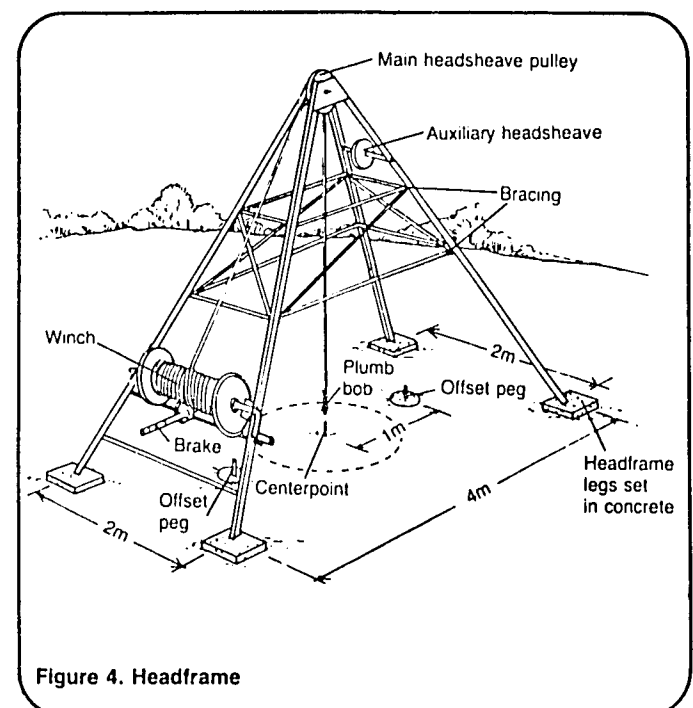

Figure 4. Headframe
3. Erect the headframe over the site of the well. The headframe must be sturdy enough to support the caisson rings, which may weigh over 350kg. One type of headframe that has been used successfully is shown in Figure 4. It is made of angle iron and equipped with a winch and brake. The four feet of the headframe must rest on solid ground--place stone slabs or pour concrete under them if necessary. It is important that the headframe not be moved once it is in position and the center point of the well has been fixed.
5. Establish the center point of the well by lowering a plumb bob from the headsheave pulley on the side opposite the winch; that is, the side from which the main hoisting rope will descend. Mark this point on the ground with a short length of re-rod. Set offset pegs on opposite sides and exactly 1.0m from the center point. Make the top of these pegs at least 150mm above ground level to make allowance for the temporary lining that will be installed. These pegs should be set in concrete and positioned so that the top plumbing rod will fit over them as in Figure 4. Allow the concrete to set for several days before using the pegs.